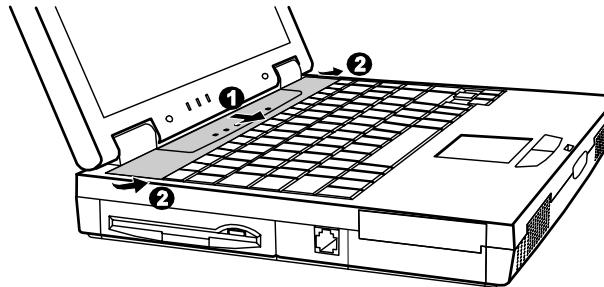

FIGURE 7-19. REMOVING THE INDICATOR PANEL
2. REINSTALL THE INDICATORS PANEL. (REFER TO FIGURE 7-19 EARLIER).
1. OPEN THE TOP COVER. REMOVE THE INDICATORS PANEL COVER BY SLIDING IT DOWNWARDS AND LIFTING THE LOWER EDGE. (SEE FIGURE 7-19)
1. OPEN THE TOP COVER. REMOVE THE INDICATORS PANEL COVER BY SLIDING IT DOWNWARDS AND LIFTING THE LOWER EDGE. (SEE FIGURE 7-19 EARLIER).